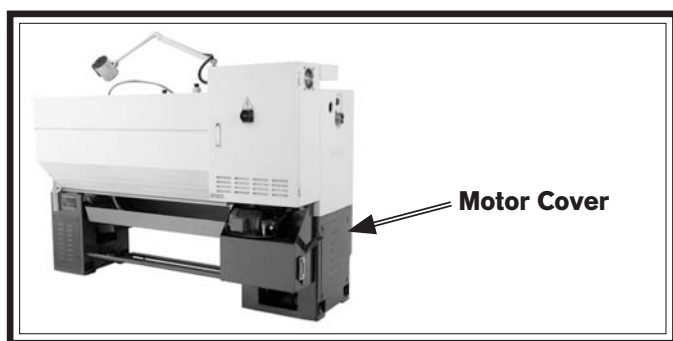

Figure 136. Location of motor cover.
2. Remove the cover shown in **Figure 136**.